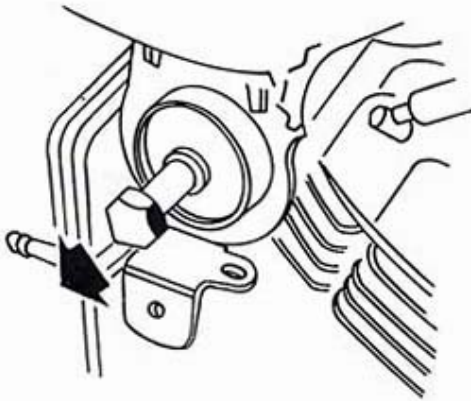

Fig. 3
- Drive out the upper engine mounting axle only as far as the first spacer (fig. 3).